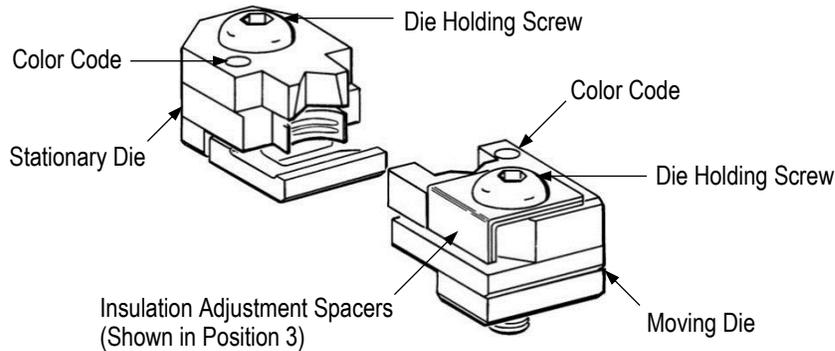

Figure 1
The terminal crimping dies listed in Figure 1 are designed to be used with hand tool 69710-1 to crimp PIDG PEEK STRATO-THERM terminals onto wire sizes 24 through 10 AWG. Refer to instruction sheet 408-2095 for information concerning the hand tool. For other compatible tooling, call the number at the bottom of this page.
2. Turn both insulation crimp adjustment spacers so that they fit into the notch in the side of the moving die for position 3 - loose. See Figure 1.
2. Turn both insulation adjustment spacers of the moving die so that they fit into the notch in the side of the die (position 3 - loose). See Figure 1.